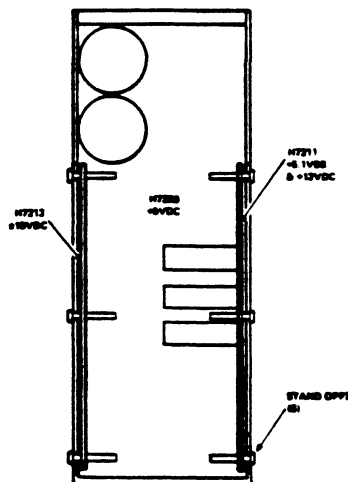

FIGURE 5-18 POWER SUPPLY REGULATOR REMOVAL
6. To remove the H7200 regulator, the power supply must be removed from the box. Loosen the four screws that secure the power supply to the chassis shelves. Lift the power supply, out of the box. See Figure 5-18.